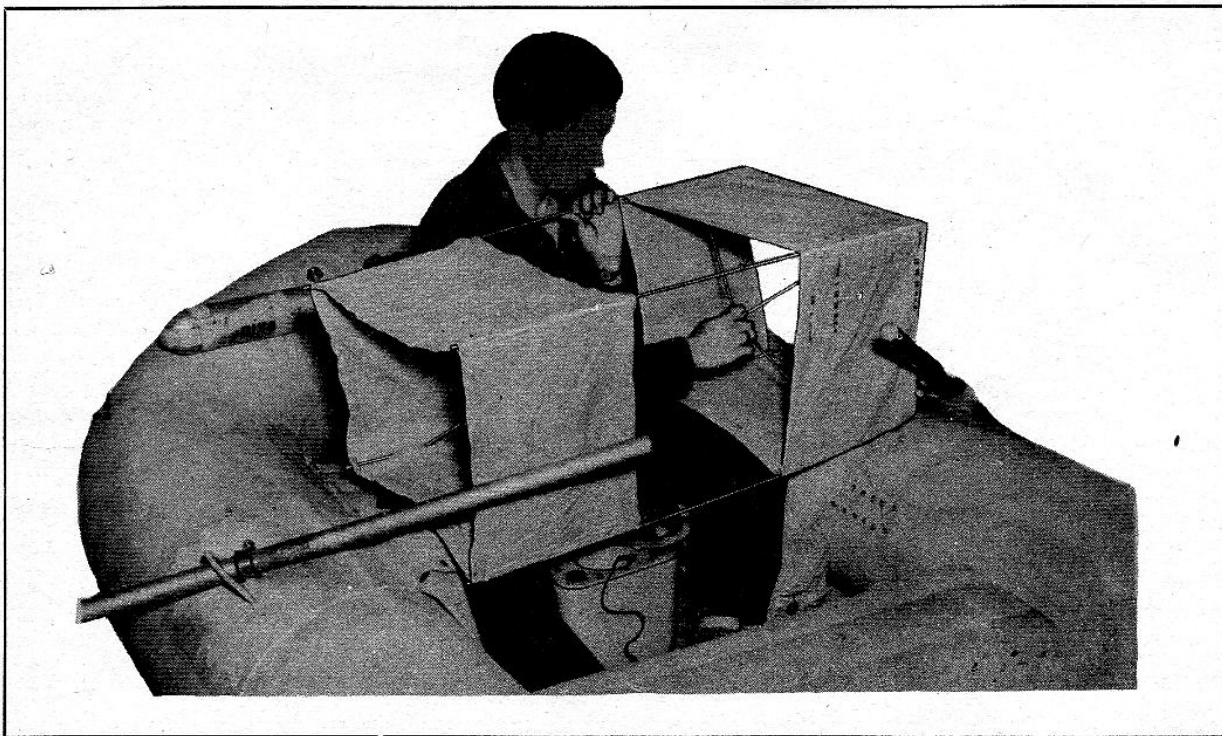

Figure 2-4. Kite M-357-A—Assembly, Step 2
*(c)* Place one hand on one spider and push toward the end of the kite. Turn the kite and push with the hand on the spider at the opposite end. (See figs. 2-4 and 2-5 for method of holding longerons and pushing the spiders into place. When these have been sufficiently extended, they will lock into position. Stop pushing on the spiders just as soon as you feel them jump. The process may be thought of as similar to that of opening an umbrella.
(18) With the antenna fastened to the balloon, release the "BRAKE" and allow the balloon to pull out *all* the wire on the reel.
(19) Attach the antenna-securing cord to the life raft and connect the antenna lead-in from the transmitter to the antenna. (See fig. 2-4.)
j. Operating the transmitter requires a comparatively high turning torque. To assure stability, a belt assembly is attached to the case of the transmitter and employed to fasten the transmitter to the operator. (See fig. 2-4.) Attach the transmitter as follows:
(1) Assume a sitting position and place the transmitter between the legs just above the knees, with the front panel facing outward.
(2) Pass the long strap over the left leg.
(3) Bring the long strap underneath both legs and buckle it to the short strap at the side of the right leg.